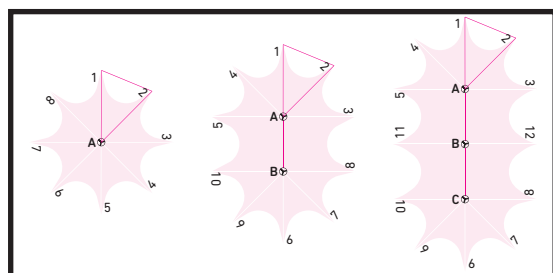

Fig. 4
6. If you set up a tent with 2 or more poles, first define the places of all poles (Fig. 4).
11. Use the anchor number 3 to stretch the ropes and drive it into the ground. Repeat the routine for the remaining anchors. If you set up a tent with 2 or more poles, follow the sequence of defining the points presented on Fig. 4.